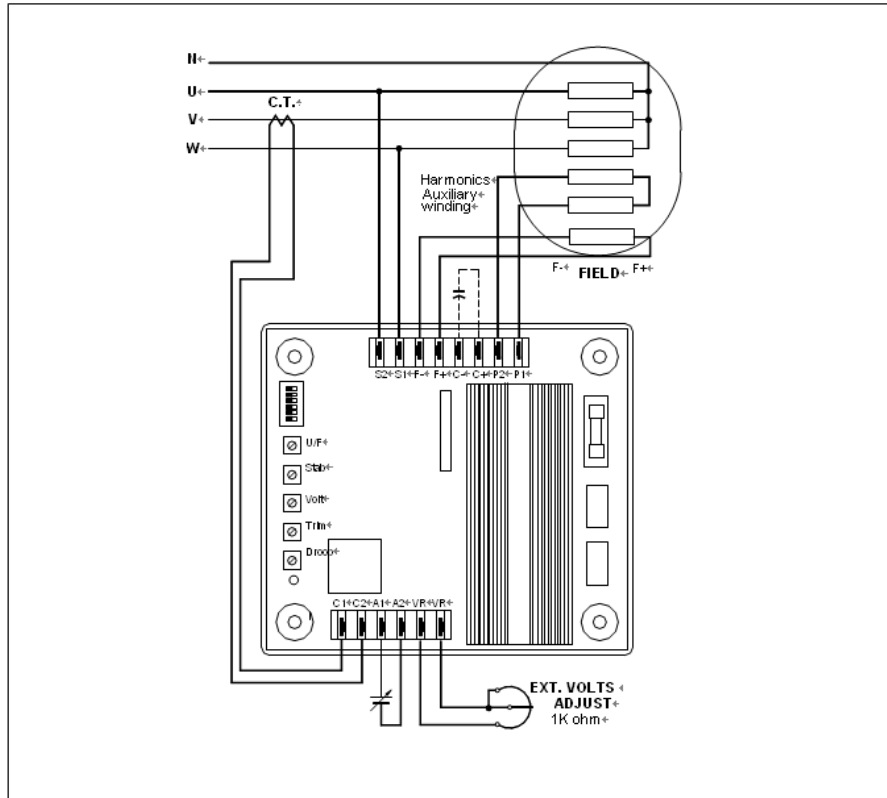
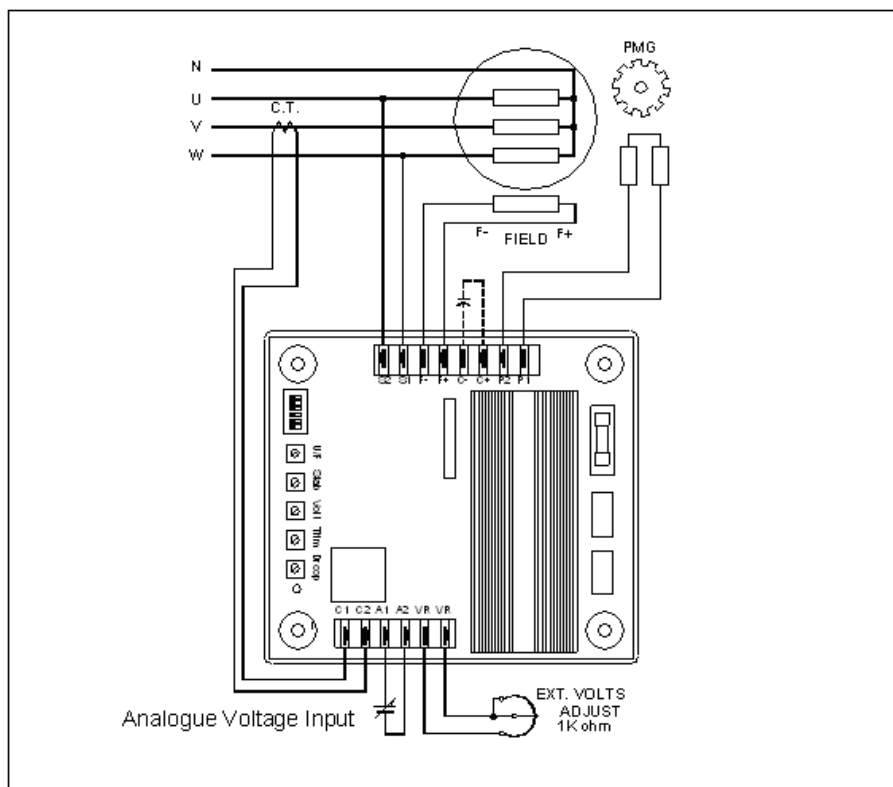

Figure 3: Connection diagram (Power input: Auxiliary winding).
Figure 4: Connection diagram (Power input: PMG).
- VOLT** Voltage setting (see: Figure 3) is used to adjust the genset's rated output voltage. When SW 1 is 'ON' (440 V), the adjustable range is 330-515 VAC. When SW 1 is 'OFF' (220 V), the adjustable range is 180-270 VAC.
- Ext. potentiometer** Connect 0.5 W potentiometer with 500 Ω resistance to the VR terminal (see: Figure 3). The adjustable voltage range is $\pm 5\%$ of U_n . With 1 K Ω resistor the adjustable voltage range is $\pm 10\%$ of U_n . If this function is not required, please short circuit these two terminals.
- STAB** Stability adjustment (see: Figure 3). It must be conducted while the generator is operating without load. At first, adjust the STAB potentiometer (POT) clockwise until the voltage becomes unstable. Then, adjust to anti-clockwise (approximately 1/5 of rotation) as the voltage just reaches the critical point (knee point) of stabilization. The voltage is now stable, but very close to become unstable.
- U/F** Under frequency protection adjustment (see: Figure 3). When generator's driving speed falls below the knee point, the under frequency protection circuit will begin to intervene. The voltage and frequency begin to decrease in linear descend. Coordinate with the dip switch SW 3 to make the frequency selection of 50 or 60 Hz. When selecting 50 Hz, the adjustable range is from 40-50 Hz and the factory presets is at 47 Hz. When selecting 60 Hz, the adjustable range is from 49-60 Hz and the factory presets is at 57 Hz.
- U/FL** When under frequency protection is activated (see: Figure 3), the red LED will light up.
- DROOP** Droop adjustment (see: Figure 3). When paralleling, the AVR compensates the input rating and voltage shifting based on load current. This is based on AVR's internal circuit calculation. This way the AVR increases or decreases the voltage. When phase current lags the voltage, AVR decreases original voltage setting, and if the phase current leads the voltage it increases the original voltage setting. The increase and decrease range can be preset by the DROOP adjustment.
- TRIM** Analogue voltage input sensitivity (see: Figure 3). When terminals A1 and A2 are added with a DC input (0-10 VDC), the TRIM is used to adjust the influence level from the DC input to the rated voltage. If the TRIM potential (POT) is adjusted fully to counter-clockwise, the additional signal will not cause any influence. If the TRIM is adjusted fully clockwise, then the additional signal will produce a maximum effect.
P1, P2	Auxiliary winding power input (see: figure 3). PMG power input (see: figure 4). The input range is 30-260 VAC at 40-500 Hz.
C+, C-	External filter capacitor terminal (see: figure 3). The filter voltage endurance must be greater than 1.7 x voltage between P1 and P2.
F+, F-	Excitation output (see: figure 3). Connect to generator excitation winding.
VR	External voltage adjustment (see: figure 3). Use 1 W VR (with 1K Ω resistance). Voltage adjustable range is now $\pm 10\%$. If this function is not required, please short circuit these two terminals.
C1, C2	Load current compensation (see: figure 3). Input range is 1 A or 5 A (selected by SW 2) >0.2 VA.
S1, S2	Sensing input (see: figure 3). Input range 220 or 440 VAC (selected by SW 1). Input resistance is >2 M Ω .
A1, A2	Analogue voltage input terminal (see: figure 3).